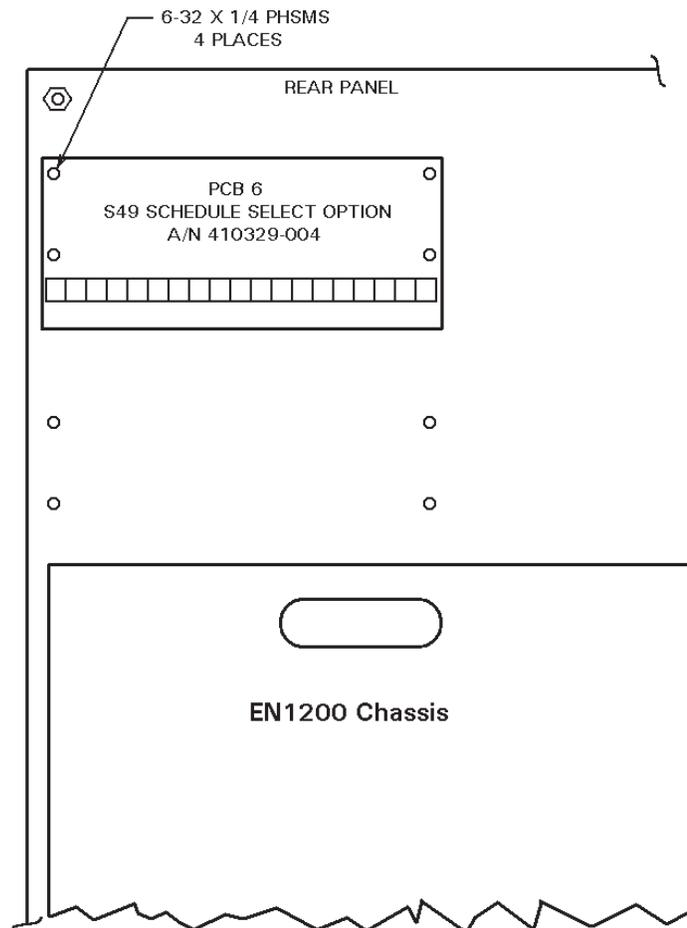

Figure 5-4. Mounting detail for EN1200
2. Mount the S49 Option PCB (A/N 410329-004) to standoffs on rear panel using four (4) 6-32 x 1/4 PHSMS, Phil., Brite (see Figure 5-4).